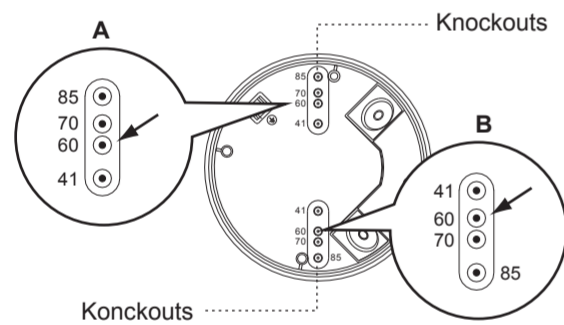

FIG.14-A
3.4.3.1 There are 4 pairs of knockouts with various distances from 41mm to 85mm on the bottom cover of combined junction box can be selected for different mounting applications (See FIG.14-A). Select two same figures on both ends for the corresponding distance for fixing (See FIG.14-B).